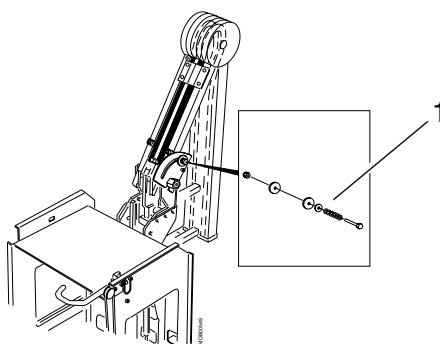

Fig. 15 Friction lining, arm
20. Remove the friction lining in the lower joint (pos. 1 / Fig. 15). The hole in the arm has an internal thread, and the bolt is additionally fastened by a self-securing nut.